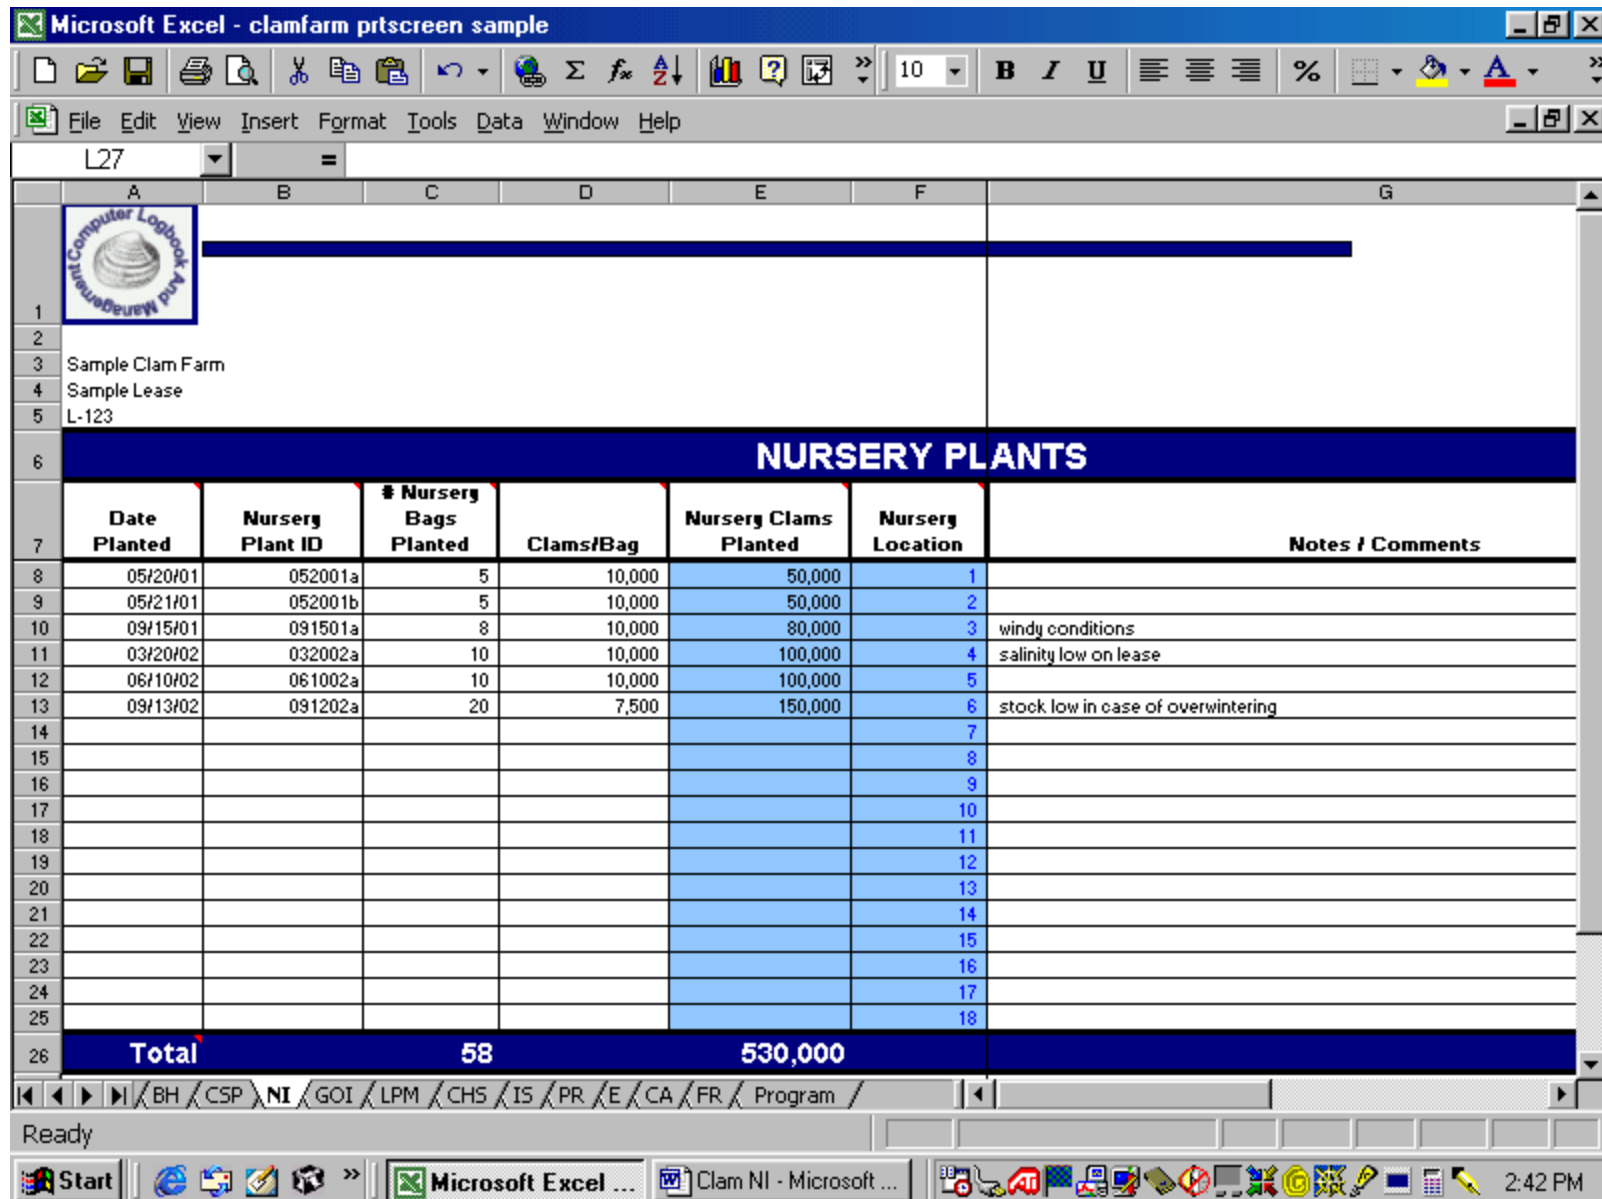

Figure 6.
**This module provides information needed by the user to describe seed planted in nursery bags. (see Figure 6)**